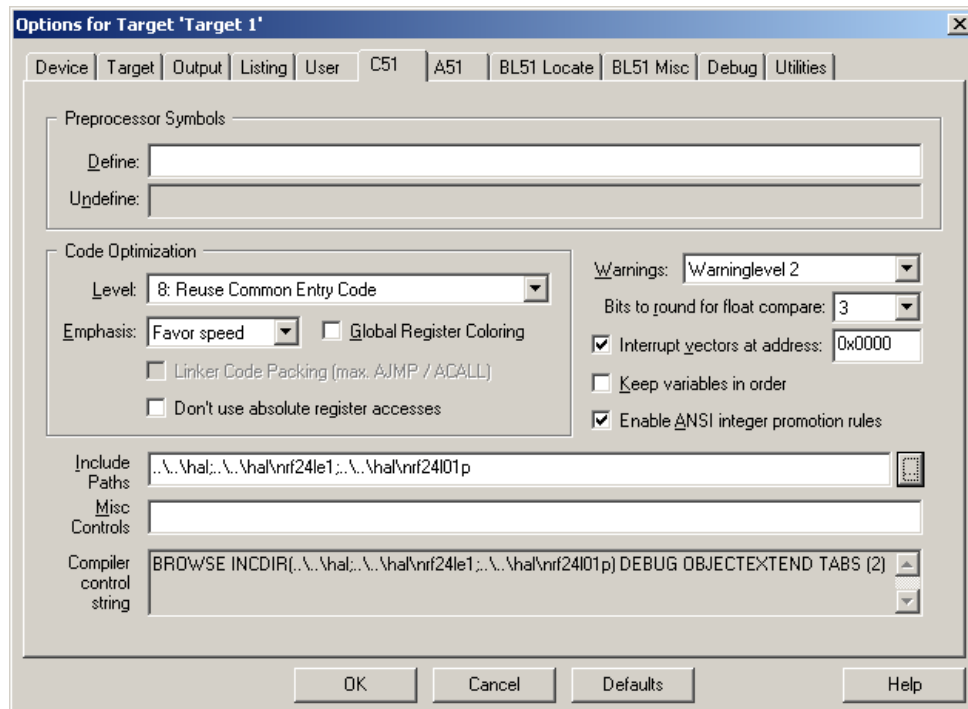

Figure 12. Required paths now included in the project
17. Required paths are now included in your project. See Figure 12.